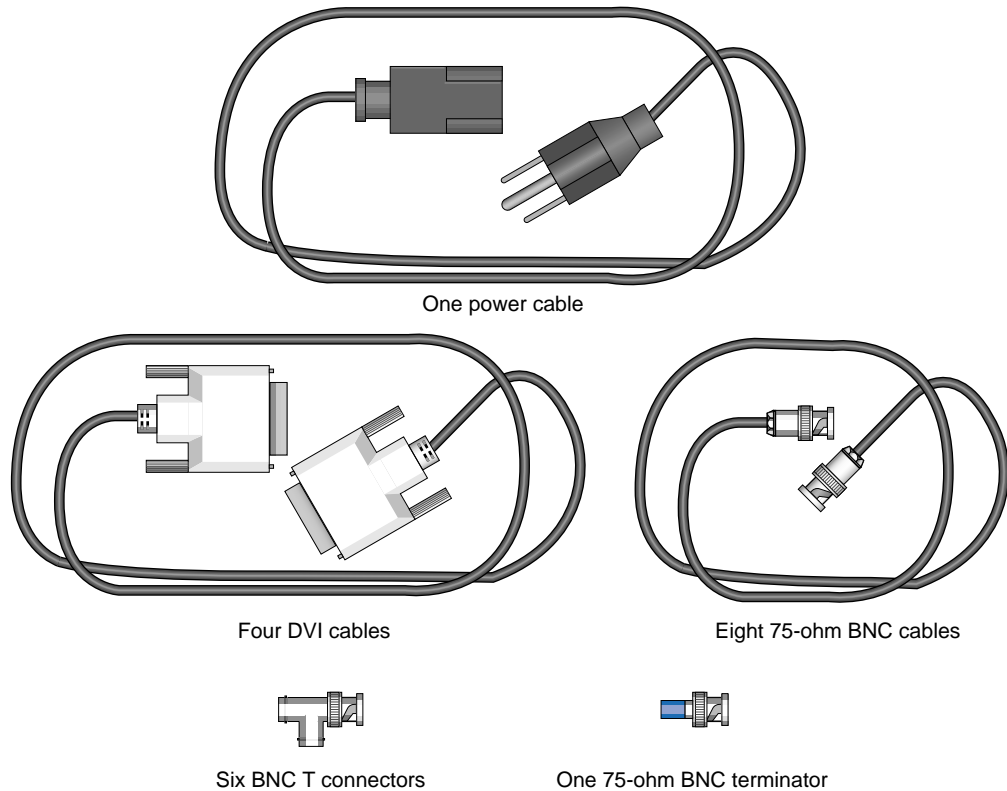

Figure 2-3 Cables and Other Cabling Items Needed for Installation
2. Gather the following cables and other cabling items most of which are shown in Figure 2-3: